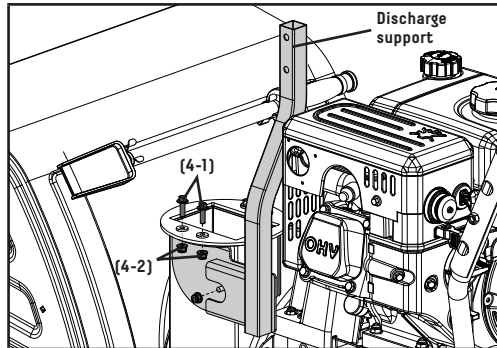

Figure 8
1. Locate the position for assembly (Fig. 8).
2. Remove the bolts (4-1) (Fig. 8) and nuts (4-2) (Fig. 8) from the main body as shown (Fig. 8). Set aside for next step.
4. Attach the snow discharge support on the main body with bolts (4-1) (Fig. 8).
5. Tighten all nuts (4-2) as shown (Fig. 8). Do not overtighten.